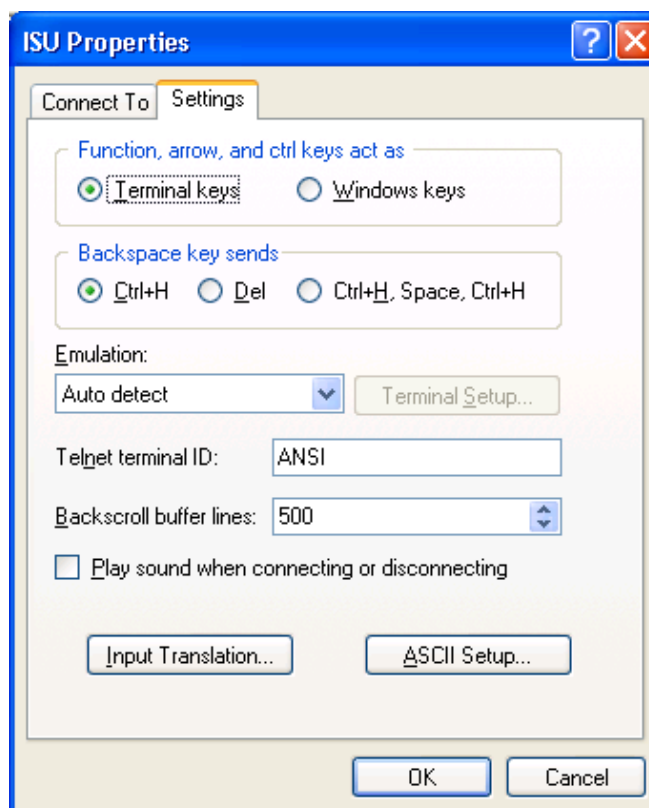

Figure 4-28 Settings tab
5. Select the menu **File -> Properties** in the **ISU-HyperTerminal** interface, and select the **Settings** tab in the pop-up **ISU Properties** interface, as shown in Figure 4-28.